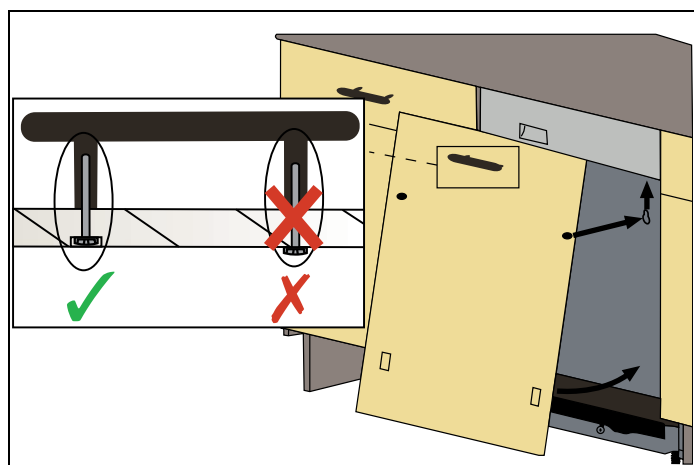

Fig. 21
- 5) Before mounting the wooden door on the dishwasher, mount the handle on the wooden door as in Fig. 21 .